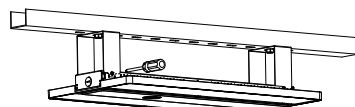

Figure 6
- Step 2. Assemble the lamp on the bracket and fix it with screws; (Figure 6)